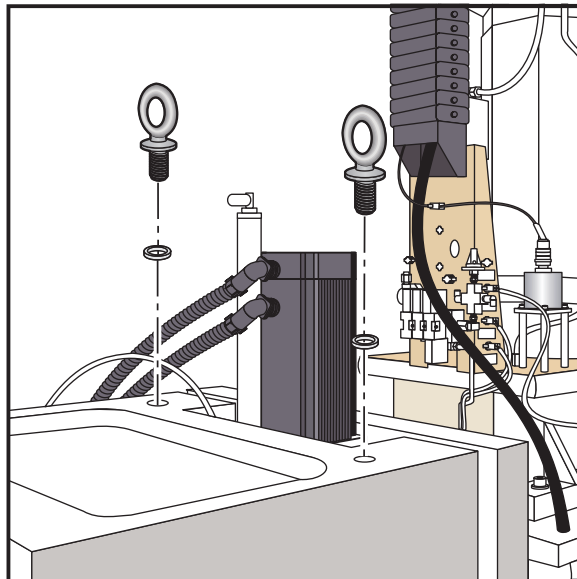

Fig. 12.26-2 VF-0/1/2 eyebolt locations.
2. Place a washer on each of the 3/4-10 x 1 3/16" eyebolts and mount to the top of the column as shown in Figure 12.26-2. Tighten securely.